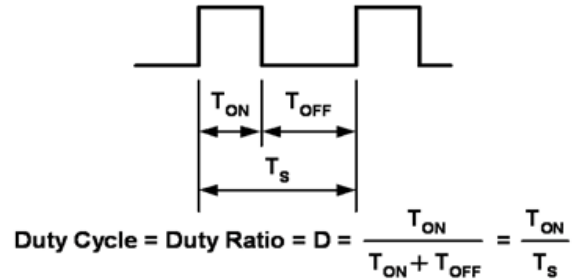

Figure 12.
generate audible sound. Dimming is achieved by turning the LEDs on and off for a portion of a single cycle. This on/off cycle is called the Duty cycle (D) and is expressed by the amount of time the LEDs are on (Ton) divided by the total time of an on/off cycle (Ts) (Figure 12).